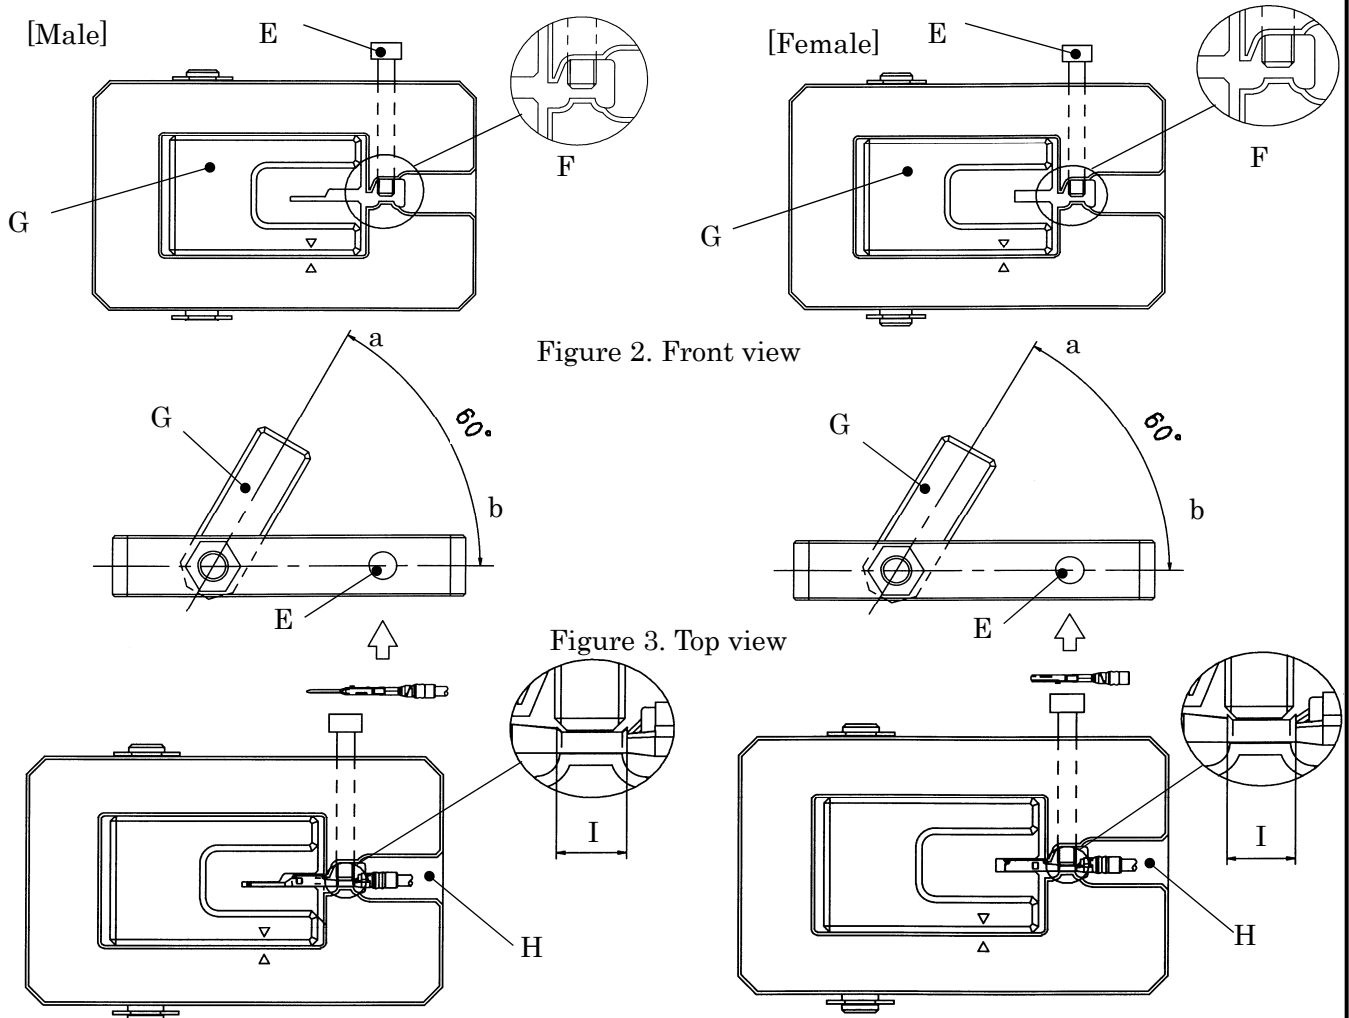

Figure 4. Front view
A) Make sure that the terminal is in contact with the wall 'H' horizontally. (See figure 4. Front view)
B) Confirm that the conductor crimp is placed at the center of the stage 'T'. (See Figure 4. Front view)
C) Rotate the part 'G' from 'a' to 'b' by its own weight to check if the terminal can pass through the gauge. (See figure 4. Front view)